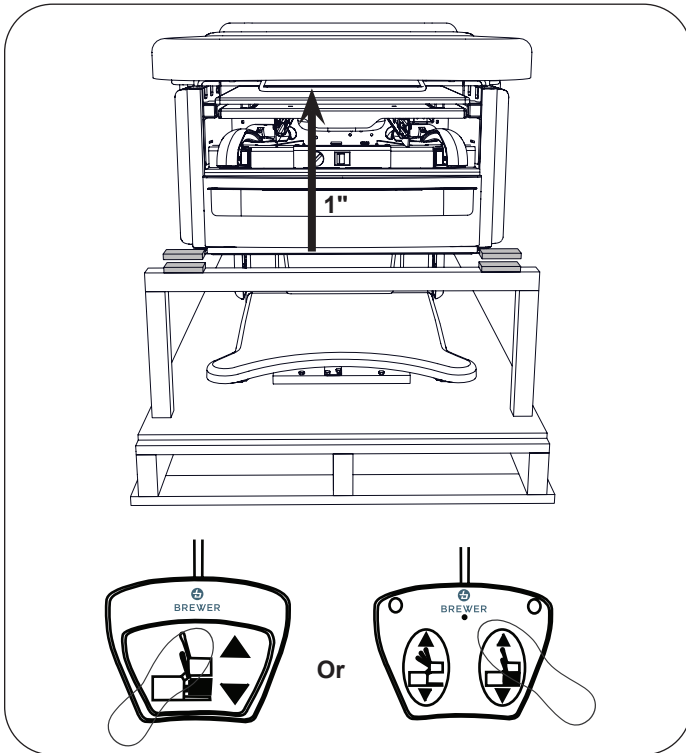

Figure 10. Raise Seat off of Brace
13. Press “Lift Up” on the foot control to raise the seat approximately 1" (Figure 10).